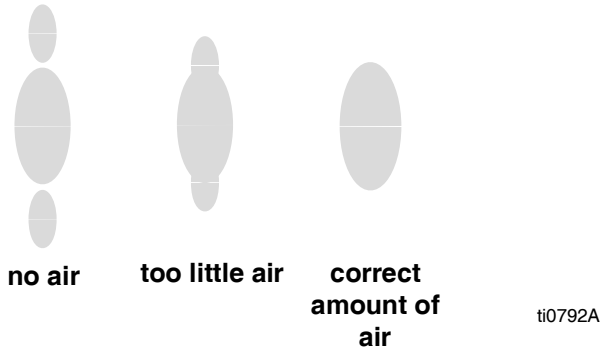

FIG. 7. Spray Pattern Problems
2. See FIG. 7. Set atomizing air pressure at about 5 psi (0.35 bar, 35 kPa) when triggered. Check spray pattern, then slowly increase air pressure until tails are completely atomized and pulled into spray pattern. Do not exceed 100 psi (0.7 MPa, 7 bar) air pressure to gun.
3. See FIG. 7. For narrower pattern, turn pattern adjustment valve knob (AA) counterclockwise (out). If pattern is still not narrow enough, increase air pressure to gun slightly or use different size tip.